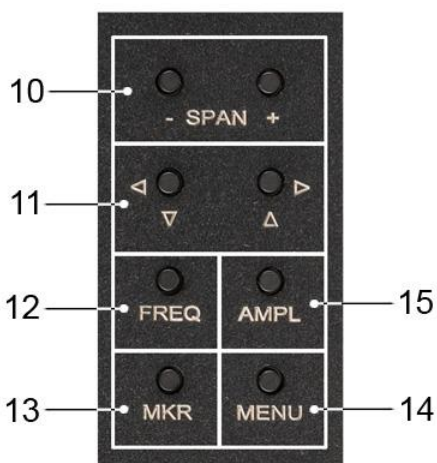

Figure 3 – The block of control buttons
5.2. The control button unit is shown in figure 3.